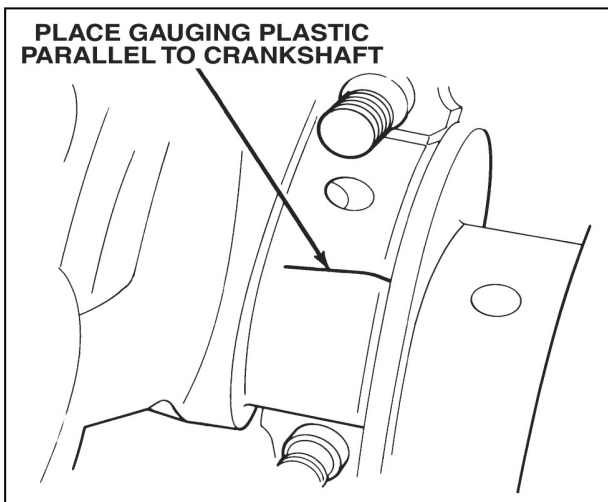

Figure 12-62 Placing Gauging Plastic on Journal
- C. Place a piece of gauging plastic the full width of the lower bearing insert (parallel to the crankshaft) on the journal (figure 12-62). Do not rotate the crankshaft while the gauging plastic is between the bearing and journal.